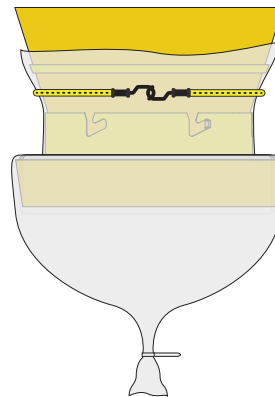

FIG. 14a
Pull the outside of the Cassette (I) over and down the lip of the cassette holder and tie the bag off with a zip tie [FIG. 14a].